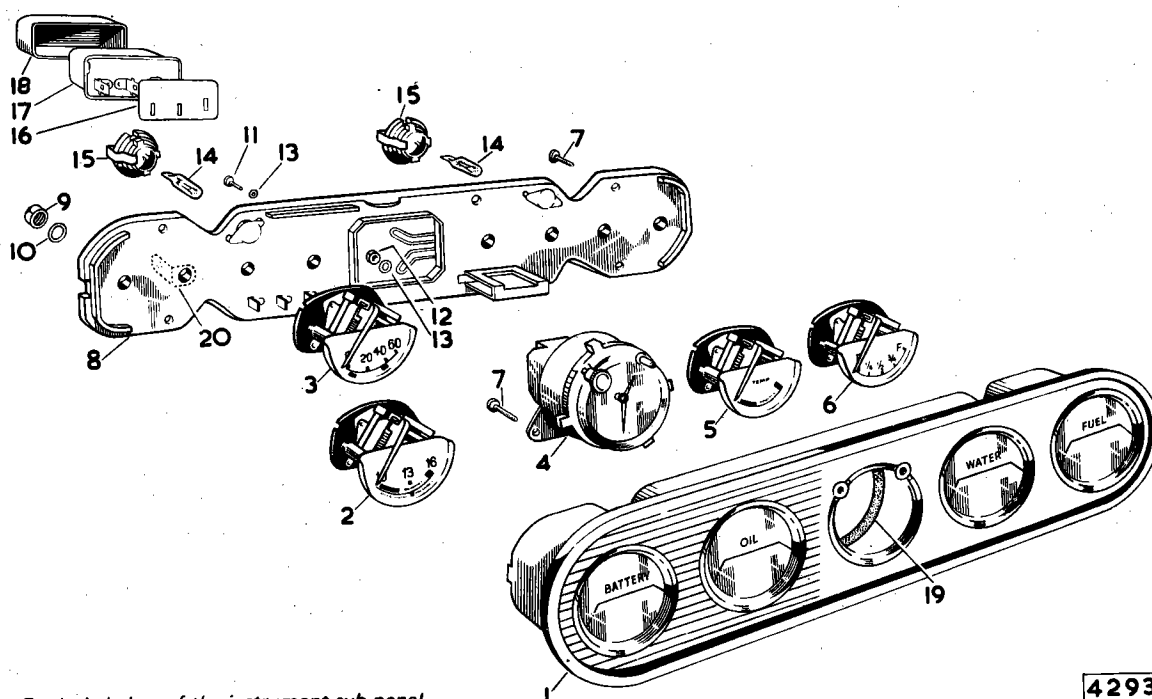

Fig. 108 Exploded view of the instrument sub-panel
It is **ESSENTIAL** that 'Lucar' blade connector (20) is refitted to the correct battery indicator terminal as shown in Fig. 108.